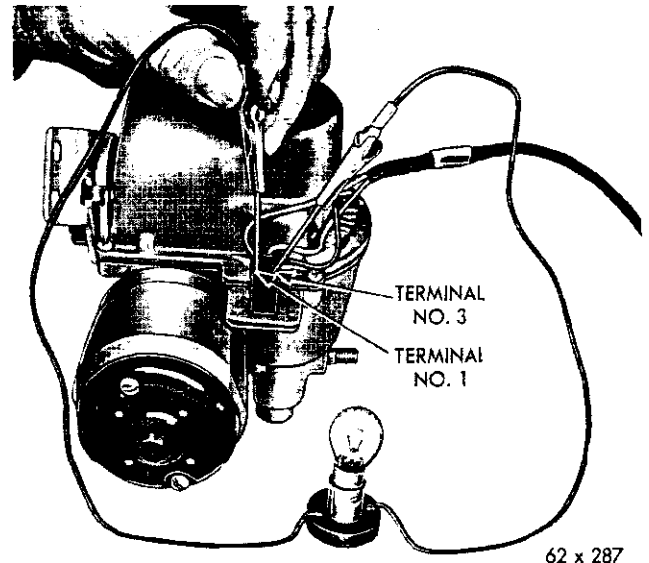

Fig. 44—Electrical Test (Terminal 3)
(4) Terminal #3—Insert one test lamp lead in terminal #1 and the other in terminal #3 (Fig. 44).